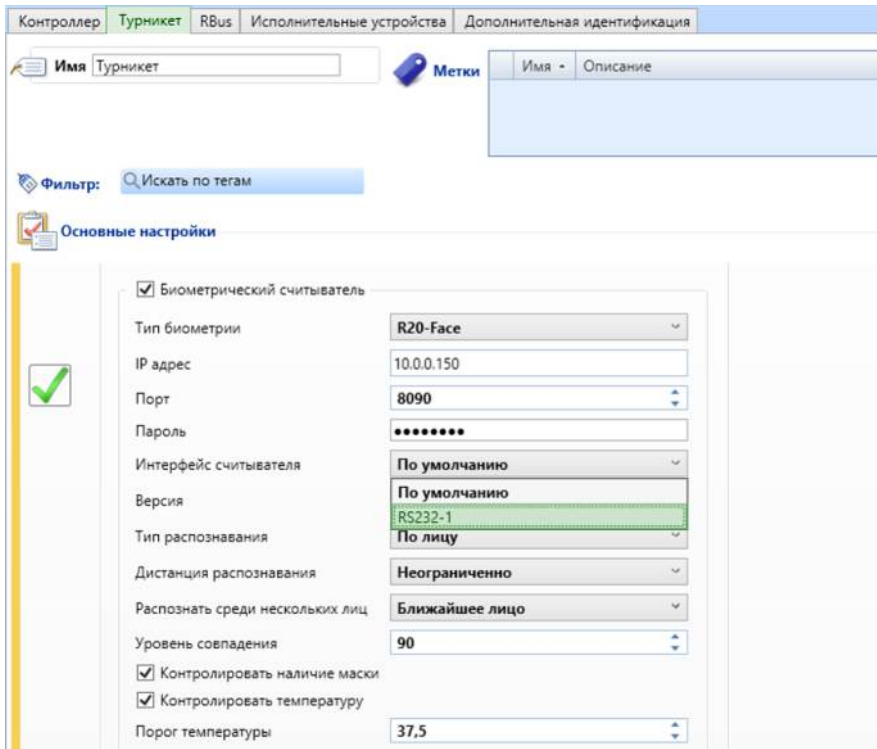

Fig. 7. Configuring the terminal connected to a specific panel
1. by **Edit** button, check the box next to the “Biometric reader” item and specify the IP address of the terminal connected to this controller (Fig. 7);.